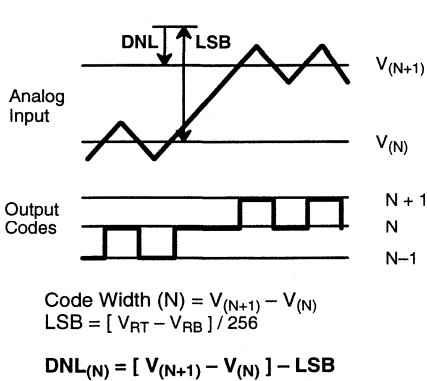
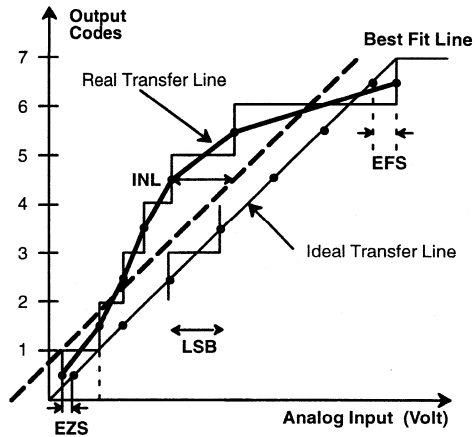

Figure 3. DNL Measurement
Figure 4. INL Error Calculation
- Tester measures code transitions by dithering the voltage of the analog input (V_{IN}). The difference between the measured and the ideal code width (V_{REF/256}) is the DNL error (Figure 3). The INL error is the maximum distance (in LSBs) from the best fit line to any transition voltage (Figure 4). Accuracy is a function of the sampling rate (FS).